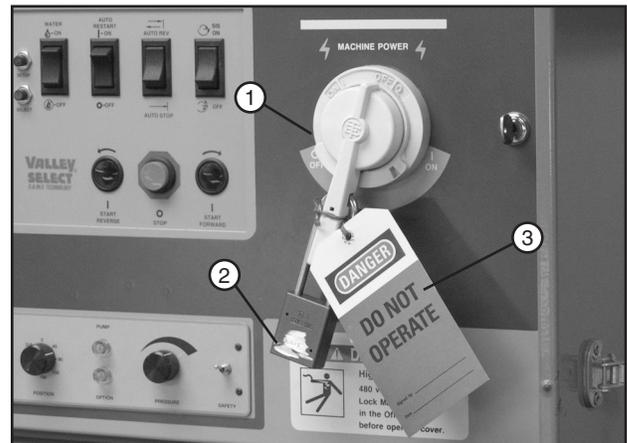

Figure 33-2 1. Main Disconnect
2. SHUT OFF and lock the control panel main power disconnect. See figure 33-2.
FILL OUT the blue (OSHA safety color code) tag and attach to the disconnect after locking. See figure 33-2.